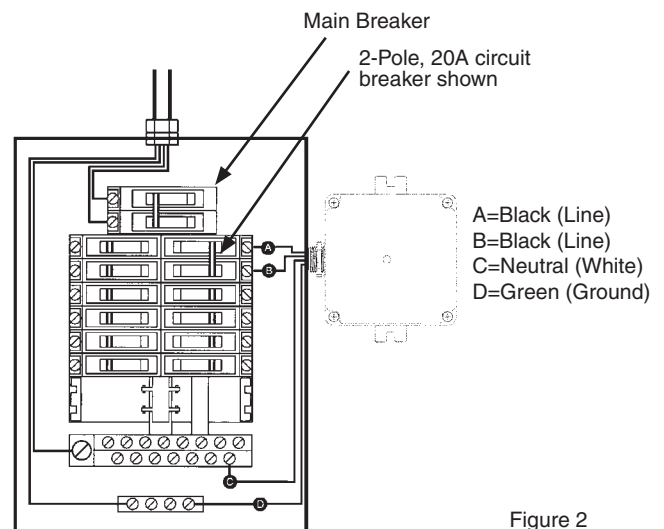

Figure 2
3. Connect the white wire from the SPD to the neutral bus bar in the panel as shown in figure 2.
4. Connect the two black wires to a circuit breaker as shown in figure 2. For best performance from SPD the maximum recommended circuit breaker size of 240V, 20A, 2-pole should be used.